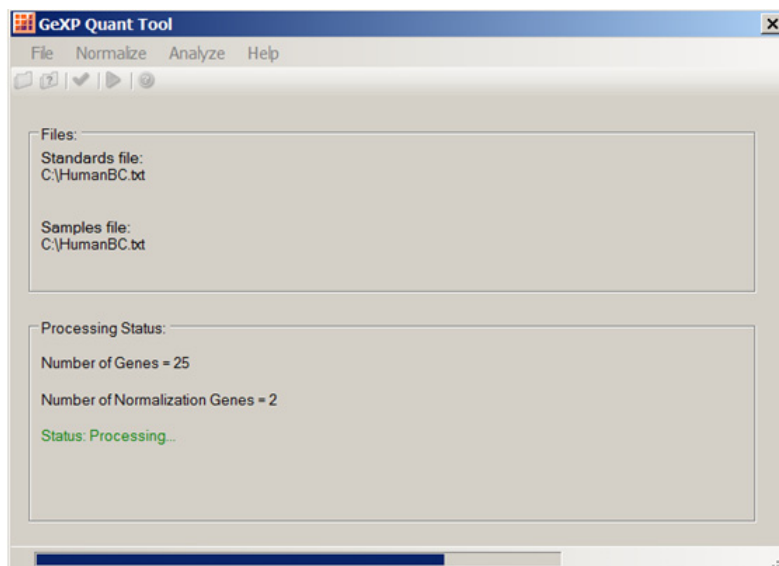

Figure 7.43 Quantitative Analysis is in process
8. The GeXP Quant Tool will generate the standard curve for each gene in the multiplex, and calculate Gene Expression Values (GEQs) and Normalized Gene Expression Values (GEQ Norm) for each gene in the unknown samples. During the analysis process, the status of the analysis will be indicated by the status bar at the bottom of the window as well as green-colored text inside the “Processing Status” box, as shown in Figure 7.43.